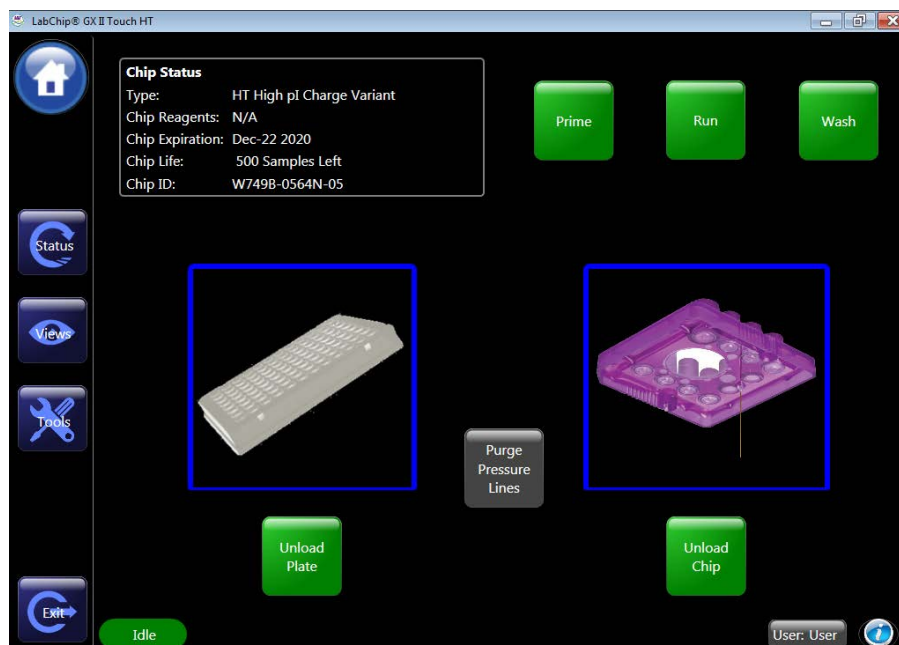
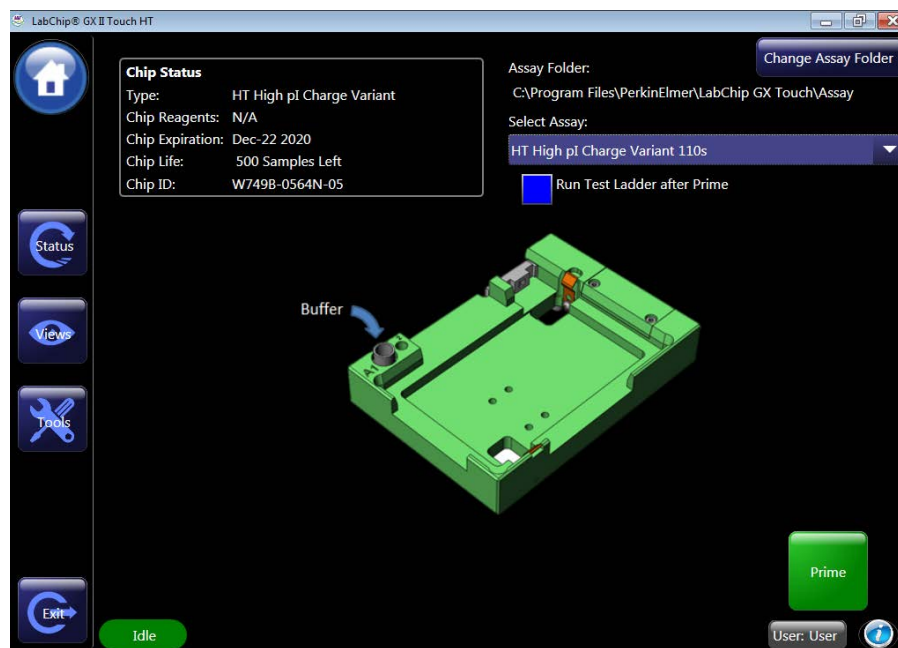

Figure 5. Home Screen
Figure 7. Chip Priming Screen
- 3 Touch the **Unload Chip** button on the **Home** screen (see Figure 5). The Chip door opens.
Note: Chips can be primed independently from running assays on the LabChip GXII Touch instrument. Touch the Prime button on the Home screen (Figure 5). Select the desired assay from the Assay drop-down list. Touch the Prime button on the Chip Priming screen (see Figure 7). Make sure the Buffer Tube is placed on the instrument.
- 1 Touch the **Run** button on the Home screen (see Figure 5 on page 12).